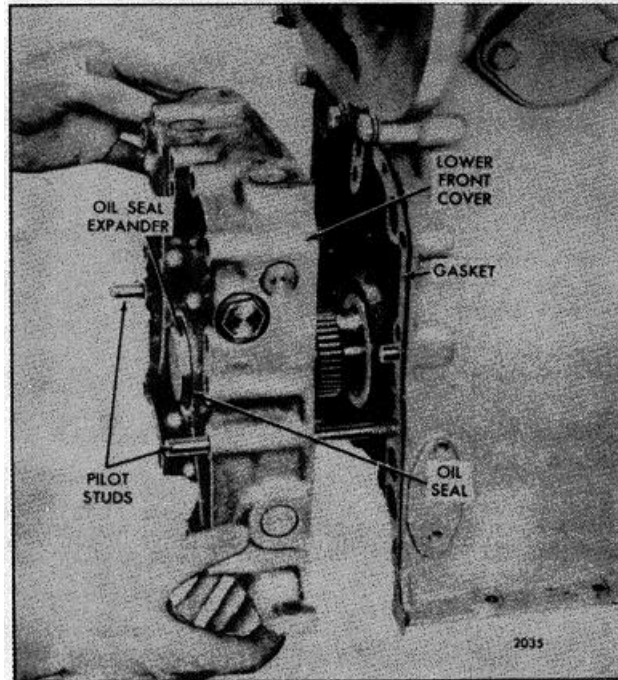

Fig. 3 - Installing Lower Engine Front Cover -- In-Line Engine
3. Thread two 3/8 "-16 pilot studs approximately 8" long into two diametrically opposite bolt holes in the cylinder block to guide the cover in place (Fig. 3).
4. Apply a light coat of cup grease to the lip of the oil seal. Slide the engine front cover over the oil seal expander and pilot studs as shown in Fig. 3. Push the cover forward until the inner rotor of the oil pump contacts the pump drive gear on the crankshaft. Rotate the crankshaft slightly to align the teeth, then push the cover up against the gasket and block. Do not force the cover.